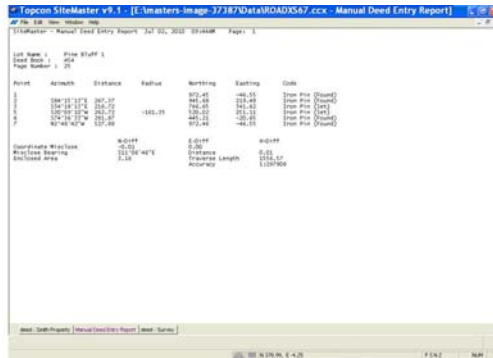

Figure 12-20. Coordinated Points Entry
- To generate a traverse closure report, click **File ▶ Report** (Figure 12-20 on page 12-17).